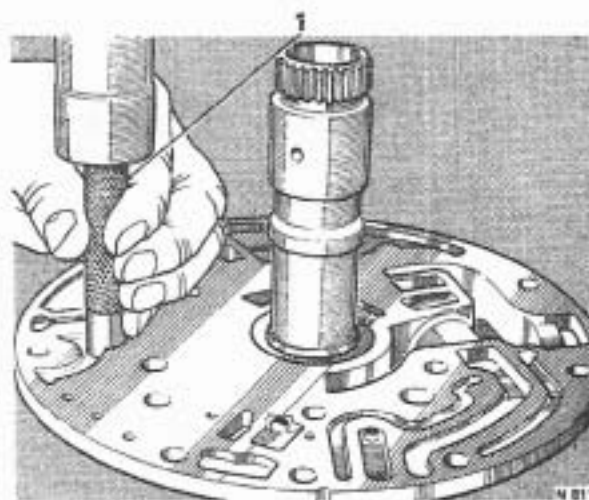

FIG. T230 FITTING THE BY-PASS VALVE SEAT
10. If previously removed, fit the heat exchanger by-pass valve spring (large end first), valve and valve seat; lightly lubricate the valve. Use the pump by-pass valve fitting tool RH 7964 (J-21360) to fit the valve seat (see Fig. T230).